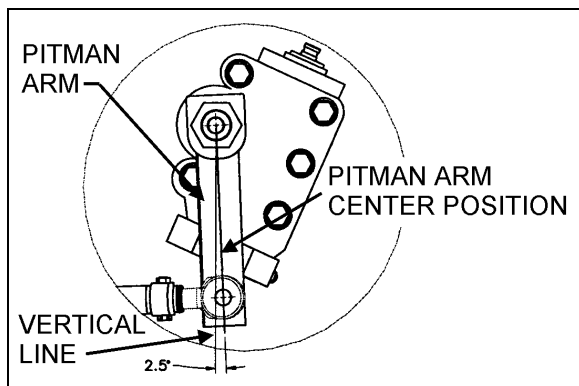

FIGURE 17: I-BEAM FRONT AXLE PITMAN ARM ADJUSTMENT
3. Lock nut with sector shaft using a punch mark into the groove (Refer to figures 17 and 18).
2. Using a protractor, check the angle of the pitman arm (refer to Fig. 17 and 18 for details).